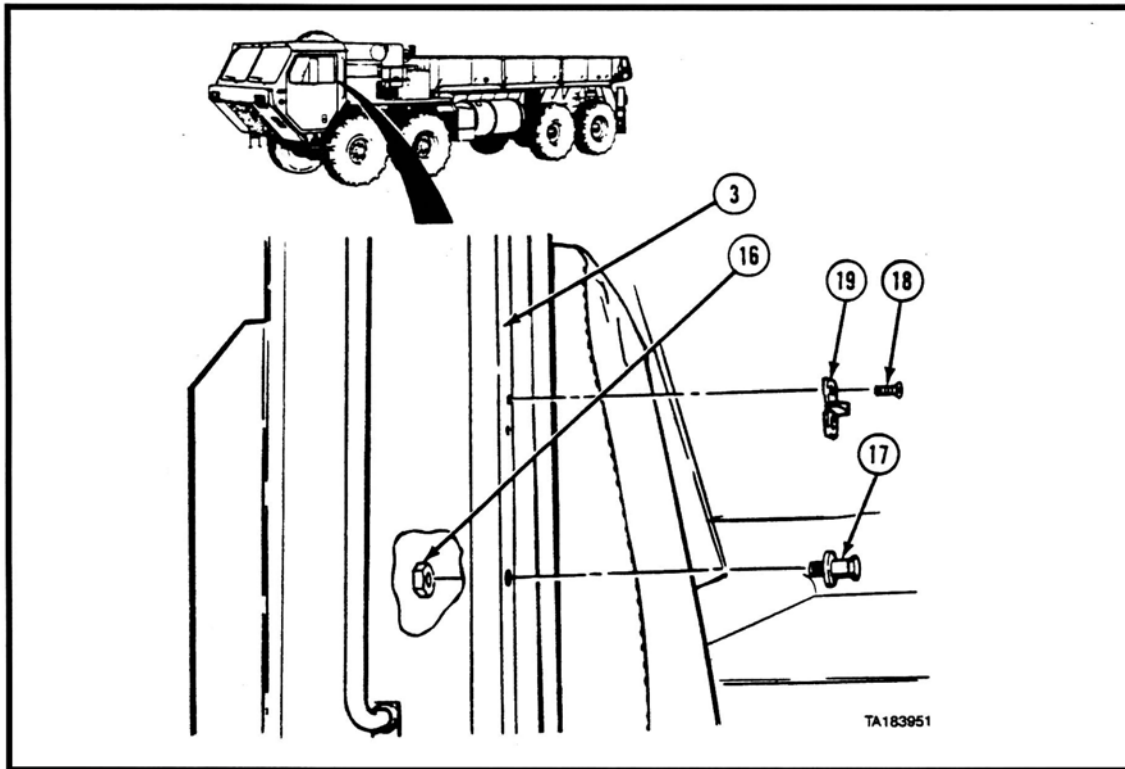

Figure 4. Remove the Male Dovetail and the Striker from the Door Frame.
- a. Remove the two screws (Item 18 in Figure 4) that secure the Male Dovetail (19) to the Door Frame (3), and then remove the Male Dovetail from the Door Frame.
- b. Remove the nut (16) and remove the Striker (17).